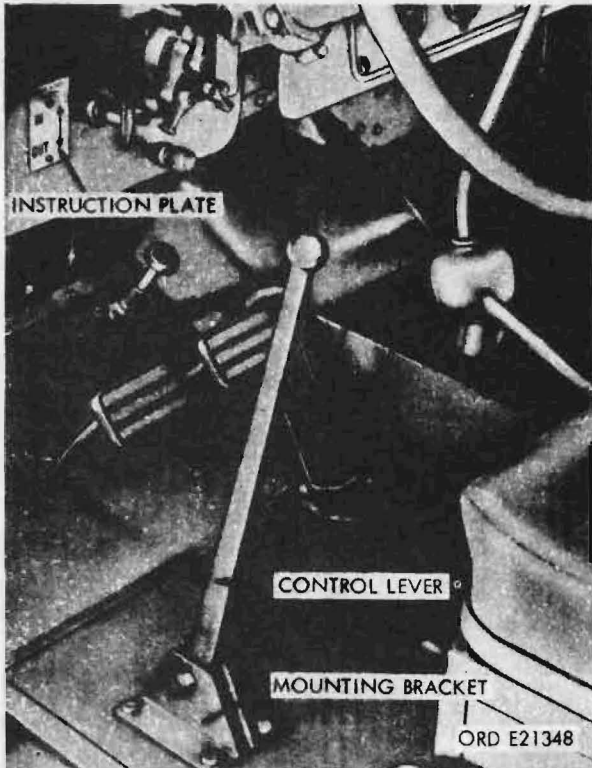

Figure 94. V-17A/MTQ rear winch control lever
- (1) Rear winch control lever (fig. 94). The rear winch control lever, located on the cab floor convenient to the driver's left hand, controls the engagement and disengagement of the winch clutch and brake.